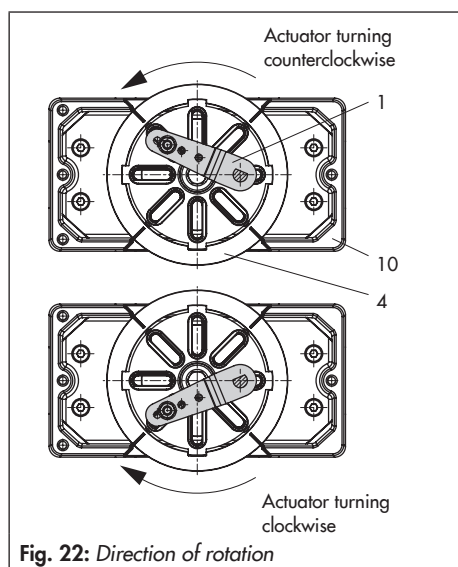

Fig. 22: Direction of rotation
2. Place coupling wheel (4) with flat side facing the actuator on the follower clamp (3). Refer to Fig. 22 to align slot so that it matches the direction of rotation when the valve is in its closed position.
3. Fasten the coupling wheel (4) and follower clamp (3) tightly onto the actuator shaft using screw (4.1) and disk spring (4.2).
4. Fasten the bottom pair of brackets (10.1) with the bends pointing either facing to the inside or to the outside (depending on the actuator size) onto the actuator housing. Position the top pair of brackets (10) and fasten.
5. Mount connecting plate (6) or pressure gauge bracket (7) with pressure gauges on the positioner, making sure the two seals are seated properly. Double-acting springless rotary actuators require the use of a reversing amplifier on the connection side of the positioner housing (see section 5.9).
6. Unscrew the standard follower pin (2) from the positioner's **M** lever (1). Use the metal follower pin (\varnothing 5 mm) included in the mounting kit and screw tight into the hole for pin position **90°**.
7. Place positioner on the top bracket (10) and fasten tight. Taking the actuator's direction of rotation into account, adjust lever (1) so that it engages in the slot of the coupling wheel (4) with its follower pin (Fig. 22). It must be guaranteed that the lever (1) is parallel to the long side of the positioner when the actuator is at half its angle of rotation.
- For **SAMSON Type 3278 and VETEC S160 Rotary Actuators**, fasten the adapter (5) onto the free end of the shaft and for **VETEC R Actuator**, place on the adapter (5.1). For **Type 3278, VETEC S160 and VETEC R Actuators**, place on the adapter (3). or **VDI/VDE version**, only use the adapter when it is required due to the actuator size.
- Fasten coupling wheel (4) on the slotted actuator shaft or adapter (3) using screw (4.1) and disk spring (4.2).
- Unscrew the standard follower pin (2) from the positioner's M lever (1). Attach the follower pin ($\varnothing 5$ mm) included in the mounting kit to pin position 90° .
- Mount connecting plate (6) for required $G \frac{1}{4}$ connecting thread or pressure gauge bracket (7) with pressure gauges on the positioner, making sure the two seals (6.1) are seated properly. Double-acting springless rotary actuators require the use of a reversing amplifier on the connection side of the positioner housing (see section 5.9).
- Place positioner on housing (10) and screw it tight. Taking the actuator's direction of rotation into account, adjust lever (1) so that it engages in the correct slot with its follower pin (Fig. 22).